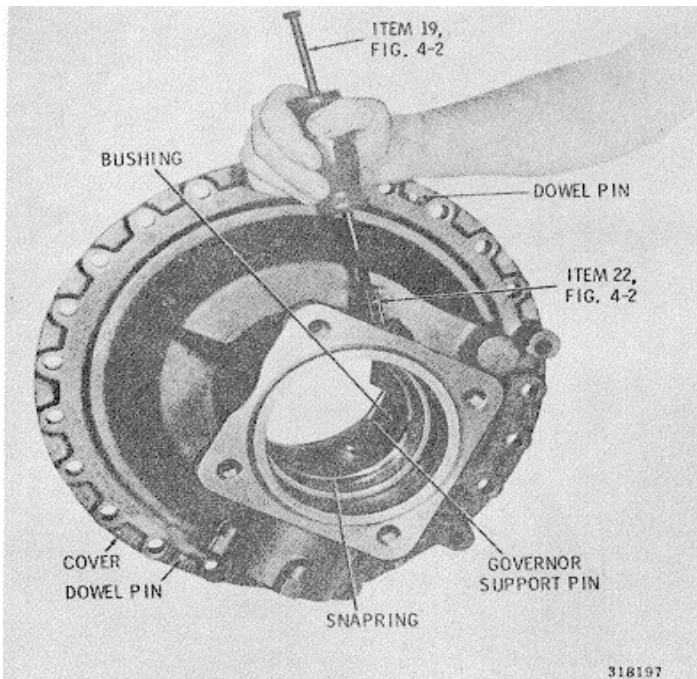

Fig. 6-54. Removing speedometer driven gear bushing
(11) If the speedometer driven gear bushing requires replacement, remove it. Thread remover 22 (Fig. 4-2) into the bushing (Fig. 6-54). Attach slide hammer 19 (fig.4-2) to remover 22 and remove the bushing.
(12) Remove any remaining parts (dowel pins, snapping, governor support pin, plugs) that require replacement, from the rear cover (Fig. 6-54).